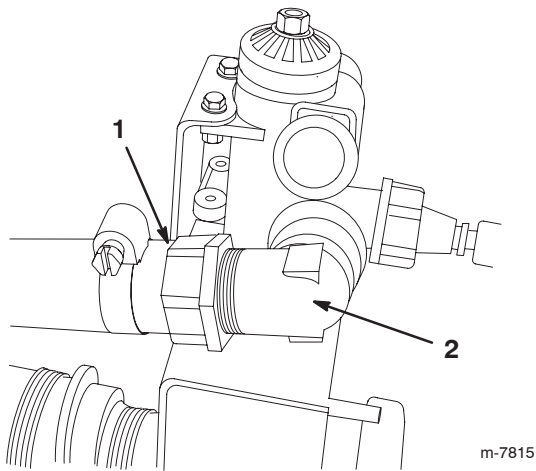

Figure 11
7. Insert the O-ring into the female threaded end of the long hose assembly and install it onto the fitting on the side of the control valve (Fig. 11).